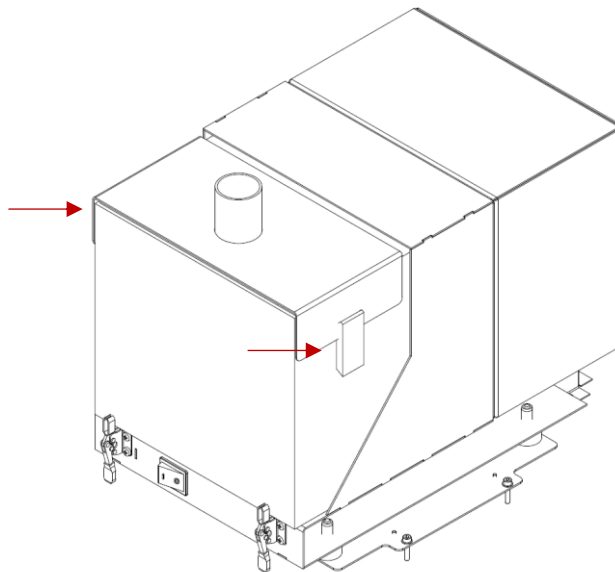

Fig. 129 Clasps securing the filter cover
4. Open the two clasps securing the top filter cover (Fig.129).